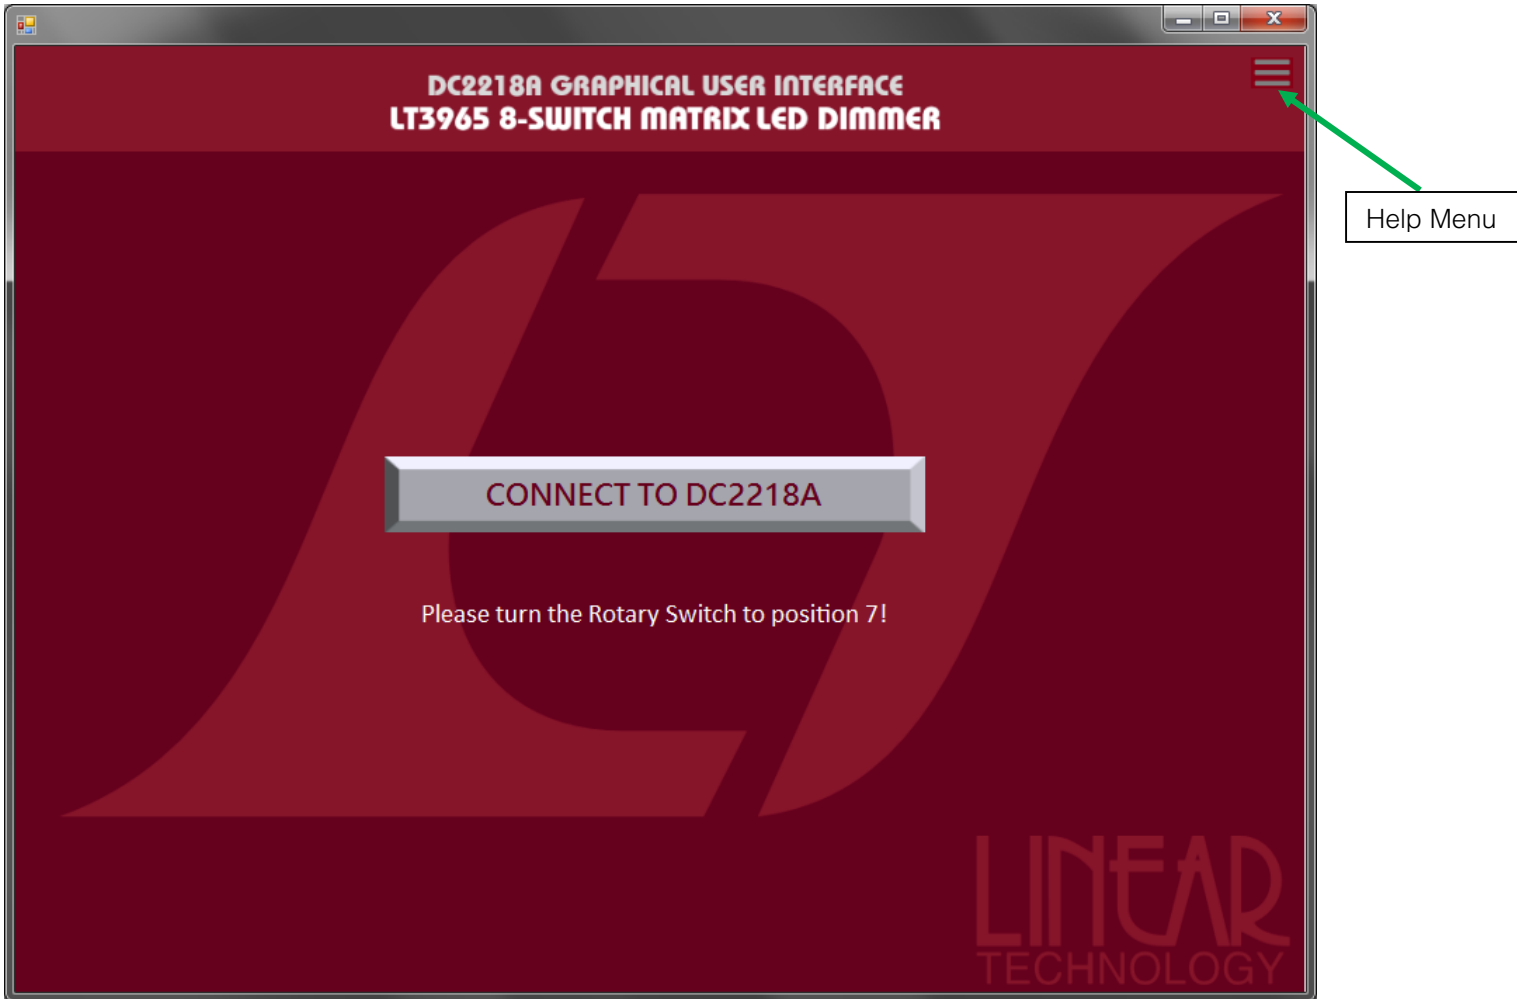

Figure 5: DC2218A Graphical User Interface connection prompt window
7. Connect the Linduino One board located on the bottom side of DC2218A to the computer using the provided USB cable. Plugging in the USB will cause the board briefly reset. After the reset is complete, the GUI automatically launches the window seen below in Figure 5. Click “CONNECT TO DC2218A” to connect to the board.